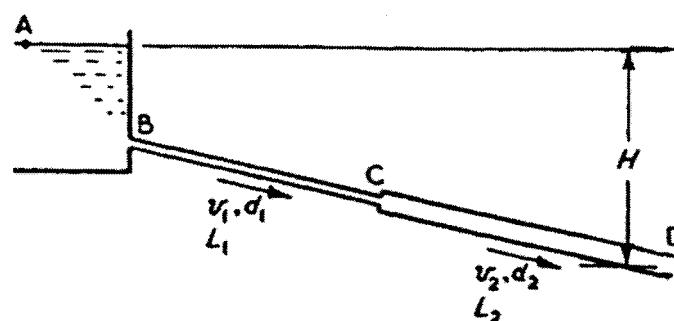

Figure Q2 (b)/Rajah S2(b)
- c) Water is discharged from a reservoir into the atmosphere through a pipe 40 m long (Refer to Figure Q2(b)). There is a sharp entrance to the pipe with 50 mm diameter for 15 m long from the entrance. The pipe then enlarges to 80 mm in diameter for the remainder of its length. Taking into account the loss of head at entry and at the enlargement, calculate the difference of level between surface of the reservoir and the pipe exit with a constant flow of 5.5 liter/s. Given friction factor, λ as 0.0192 for the smaller pipe and 0.0231 for the larger pipe.